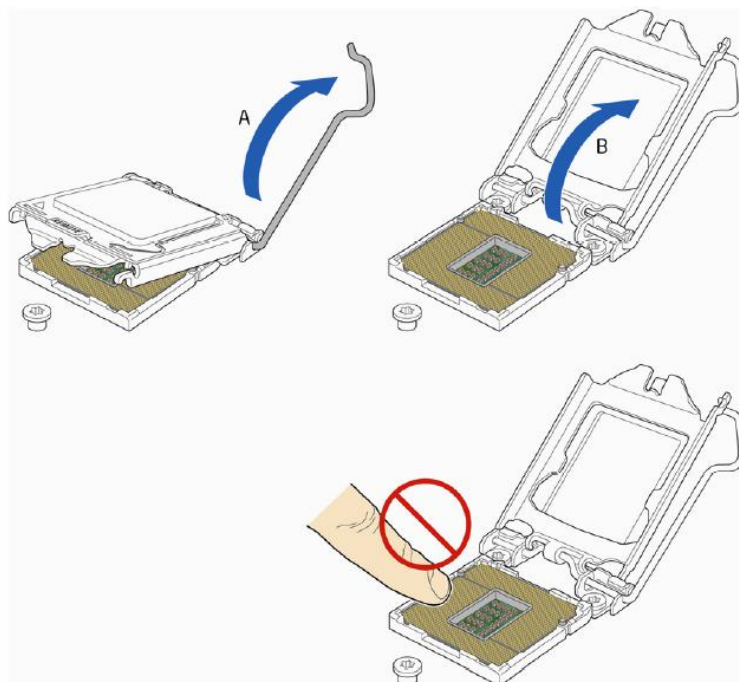

Figure 20: Lift the load plate
2. Rotate the socket lever to lift the load plate away from the socket (Figure 20, A). Make sure that the load plate is in the fully open position (Figure 20, B) while being careful not to damage adjacent components. Do not touch the socket contacts.